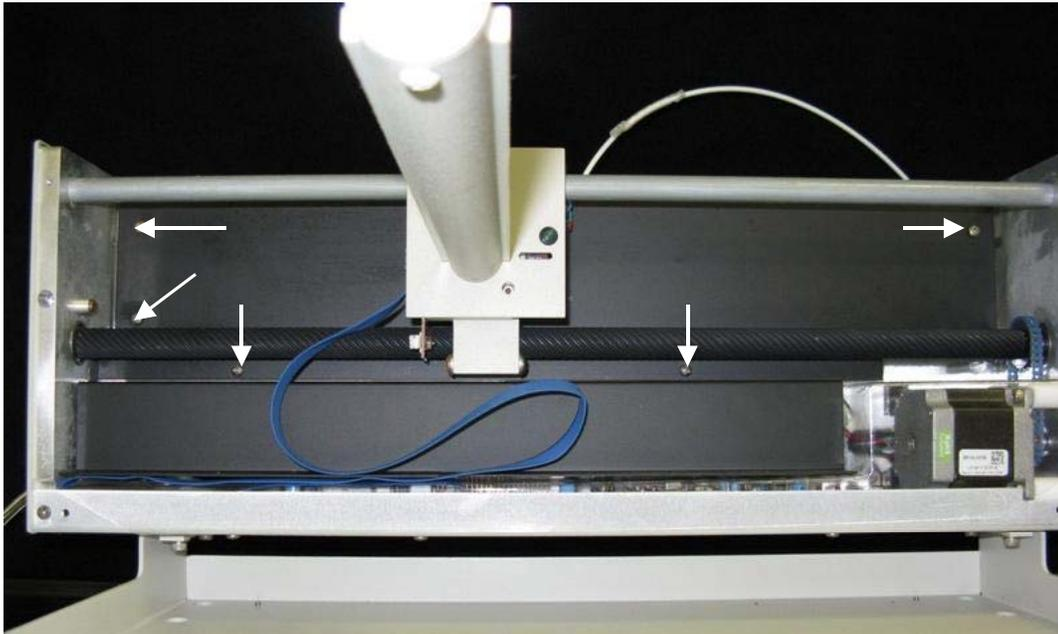

**Figure 1-11.** Removal of inner shield.
9. The inner shield can be removed by lifting it up while pulling forward. See Figure 1-11.